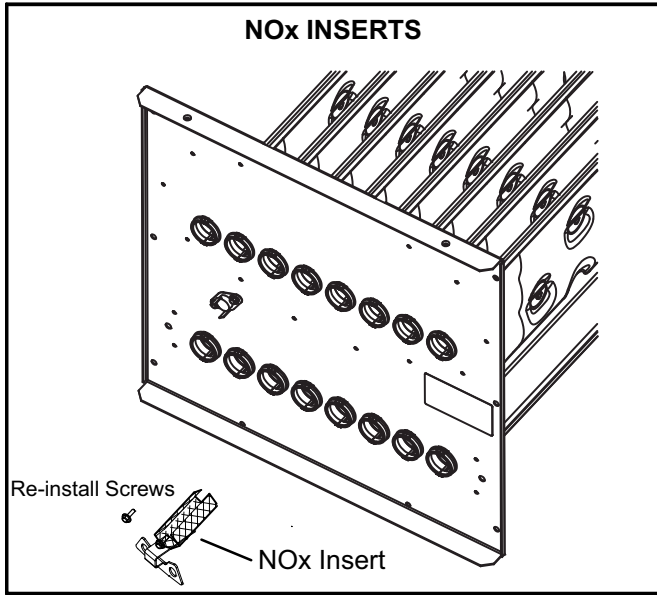

FIGURE 1
- 4 - Remove the screw that secures the burner box front cover and remove front cover. See figure 1 or 3.
7 - EL280(X) and SL280(X) NO_x units being converted from natural to LP /Propane. See figure 1.